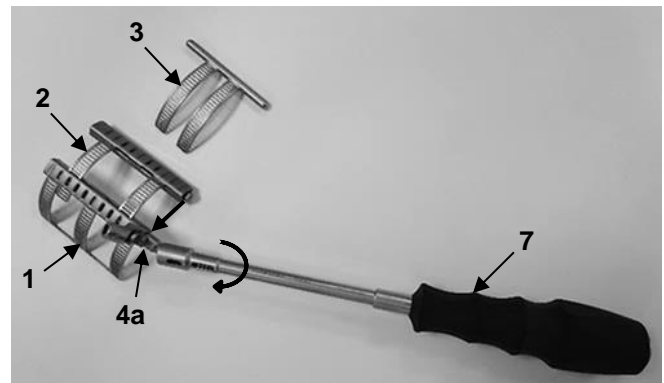

Fig. 17
1. Insert the primary element (2) into the base element (1) and retract using the appropriate screwdriver (7). To do this, turn the transport mechanism on the box module of the base element (4a) counterclockwise using the screwdriver (7) (Fig. 17).